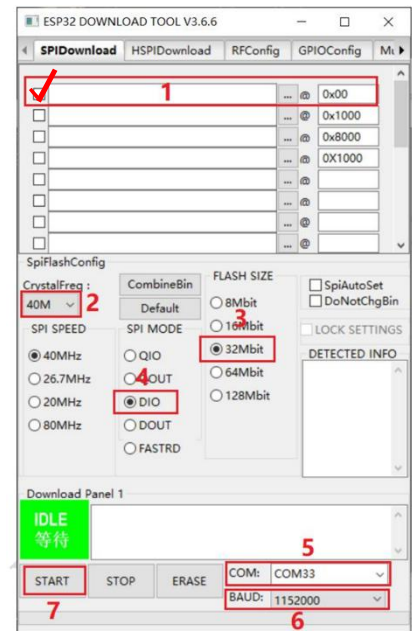

Figure 4 (Fig.4)
2. As shown in Figure 4 (Fig.4) on the right: select the firmware path to be burned at 1, the address is usually 0X00, and remember to tick the front after setting; Select 40MHz for the system clock at 2; Select 3 locations for the size of Flash as 32Mbit; Select SPI MODE to DIO mode at 4; Select the port number recognized by the current board on the computer at 5; Select the serial port baud rate at 6 (the higher the value, the faster the firmware download rate, the maximum support is 1152000bps);